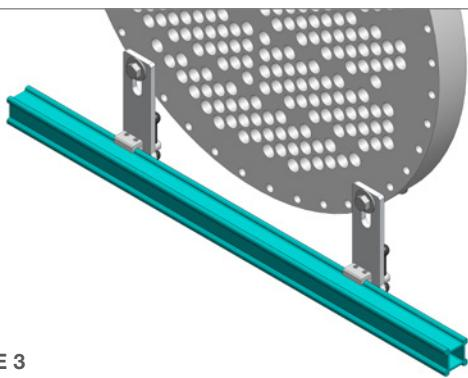

FIGURE 3
3. Insert the **Lower Rail (non-slotted)** into the lower mounting brackets. It is not critical that this rail is aligned as precisely as the top rail, but it should be close to parallel with the top rail for best performance. Tighten the clamps securing the rail to the mounting brackets. Ensure lower mounting brackets are securely clamped or bolted to the tube bundle flange. (**Figure 3**)